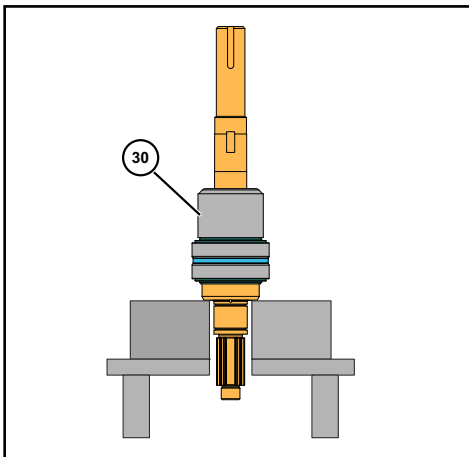

Figure 82 - Install Bearing Spacer
9. Install the bearing spacer (Figure 82, item 30).